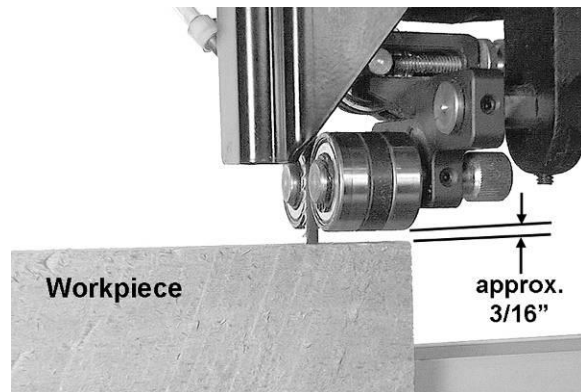

Figure 9-1
2. Adjust blade guide assembly so that the guide bearings are just above workpiece (about 3/16”) allowing minimum exposure to blade. See Figure 9-1.